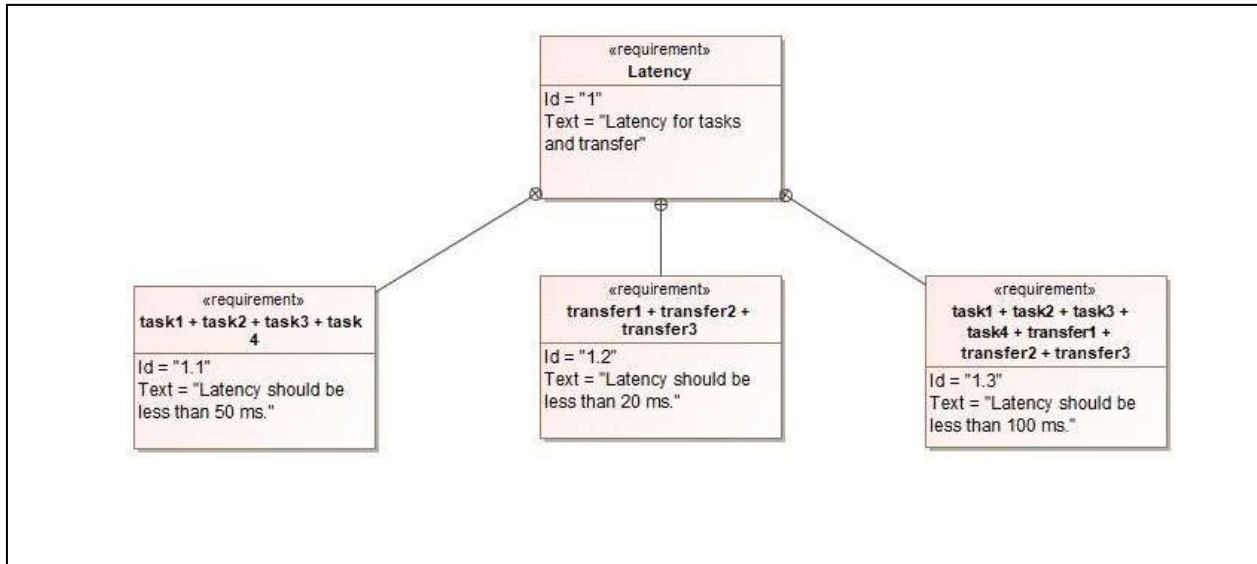
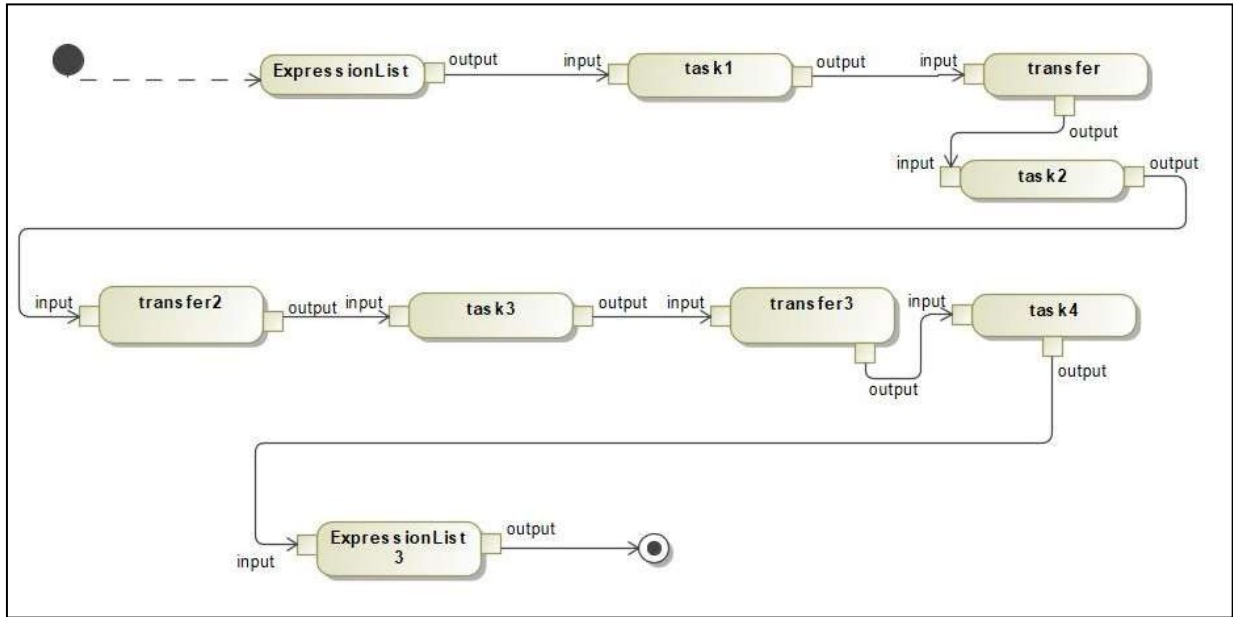

Fig 4.1: Requirement Diagram
Fig 4.2: Activity Diagram
Step 1: Open Cameo System Modeler then create the requirement & Activity diagram in it. As shown in Fig 4.1 & Fig 4.2. Then click on save project to save. Now the xml file will be created.